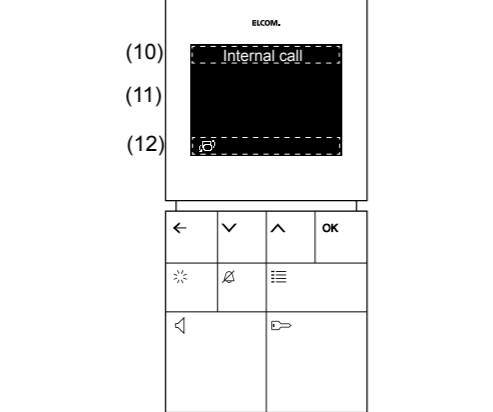
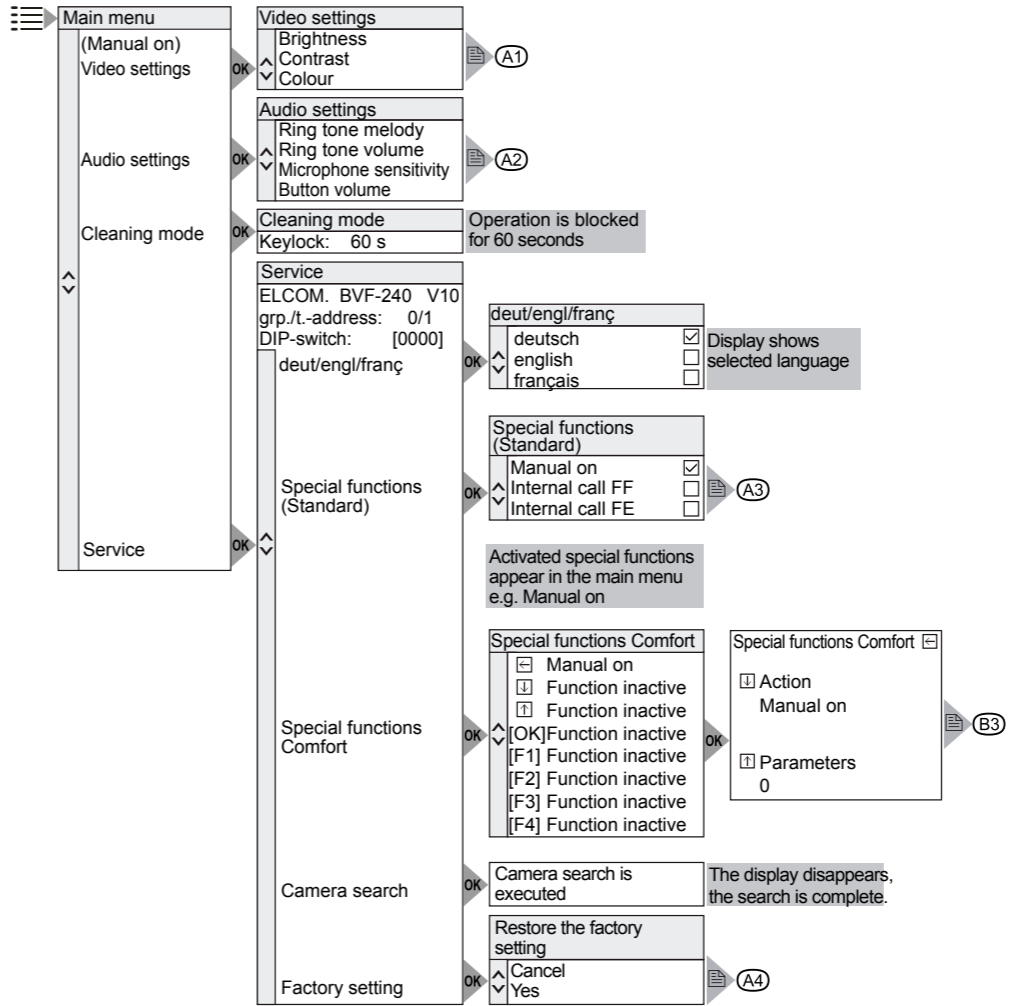

Figure 2: Display areas and button assignment of the video intercom
Figure 4: Menu overview, video intercom Comfort
The intercom is operated using capacitive buttons (Figure 2). A light touch of the button panels is acknowledged with a tone. The buttons trigger different actions, according to the active state of the video intercom. If available, active and activatable special functions are displayed using the LED navigation buttons and a symbol over the navigation button in the display.
- 📄 In the case of a door call from an audio door station, the status line of the display (Figure 2, 10) shows the door number.
- Press the ☰ button (Figure 4). The main menu opens.
Up to 3 special functions can be configured in the Service special functions submenu. To speed up access, configured special functions are sorted at the beginning of the main menu (Figure 4). The special function can be opened directly via its navigation button (Table 2), if no menu is displayed. If the special function **Manual on** is activated, during a call, the toolbar for special functions (Figure 2, 12) will show, over the ← navigation button, the symbol 📄 for camera change-over.
Up to 8 special functions can be configured in the Service special functions submenu. To speed up access, configured special functions are sorted at the beginning of the main menu (Figure 4). The special functions of the navigation buttons ←, ▽, △ and **OK** can be directly called up via these, if no menu is displayed. During a call, the toolbar for special functions (Figure 2, 12) will show the symbol, if available, over the appropriate navigation button. A distinction is made between temporary and switchable special functions. In the main menu, switchable special functions also have a checkbox, which also displays their status (Table 3).